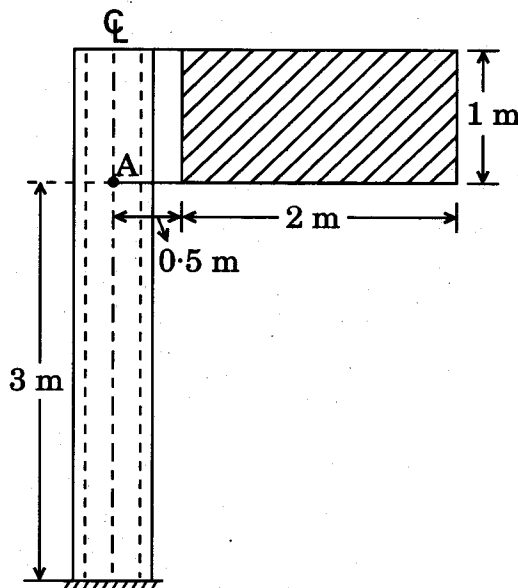

Figure 3
- Q2. (a) A steel tube is to be used as a post for a road sign board as shown in Figure 3. The maximum wind pressure on the sign board is 1960 N/m^2 . The angle of rotation of the tube at the bottom of the sign board marked as A must not exceed 4° and the maximum shear stress (due to torsion only) must not be greater than 38 MPa . Determine the mean diameter of the tube if the wall thickness is 4.2 mm . Take $G = 70 \text{ GPa}$. Assume wind is transmitting only over the sign board portion.